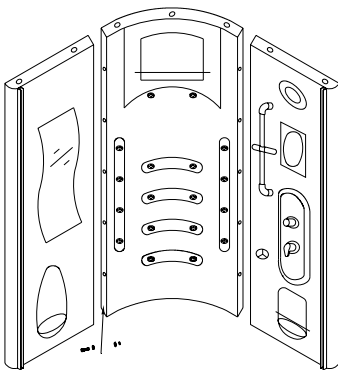
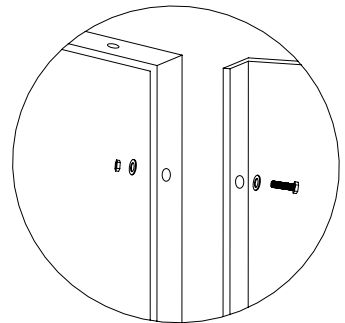

Fig.6
Fig. 7
4. Connect left, right and middle wall with M6x30 bolts, make up wall assembly. Fig.6, Fig. 7.